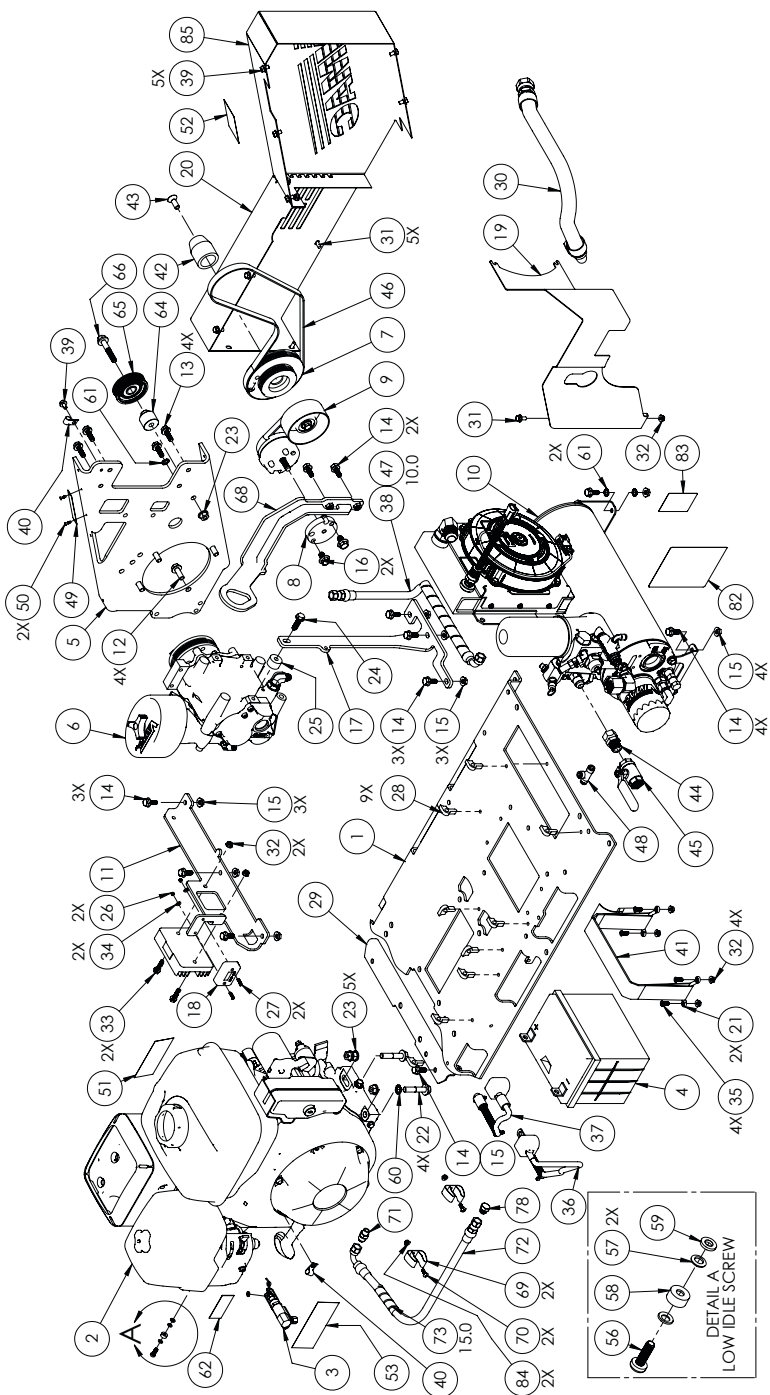
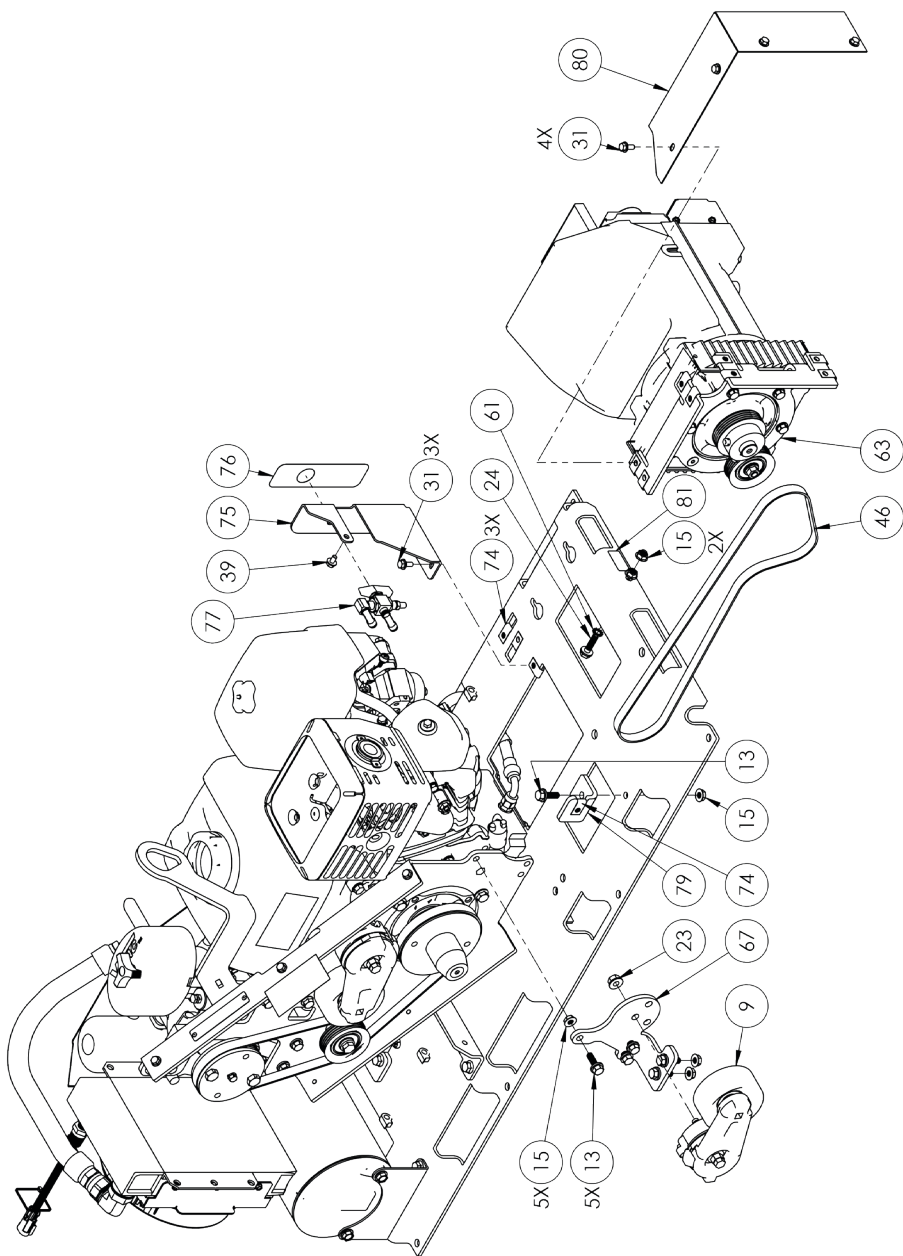

Figure 88 — Kit pack list
Figure 89 — Kit pack list
**Items 54 – 55, 86 – 97 not shown in Figure 88 on page 112 or Figure 89 on page 113.*